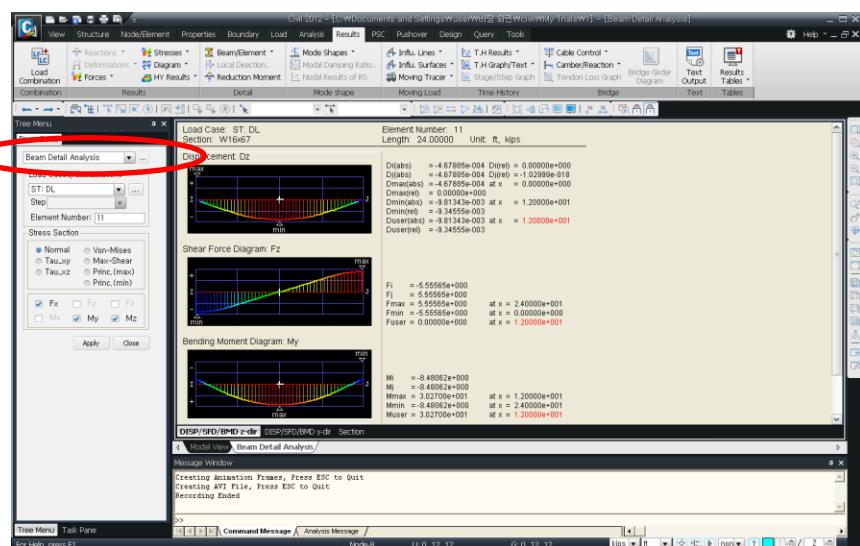

Figure 1.38 Beam Detail Analysis (DISP/SFD/BMD z-dir)
6. Verify the analysis results by selecting consecutively the **DISP/SFD /BMD z-dir**, **DISP/SFD/BMD y-dir** and **Section** tabs shown in Fig.1.38-②.
① The windows currently opened in the Window of the Main Menu can be automatically assigned in diverse formats.
② The z-dir tab displays Dz, Fz and My.